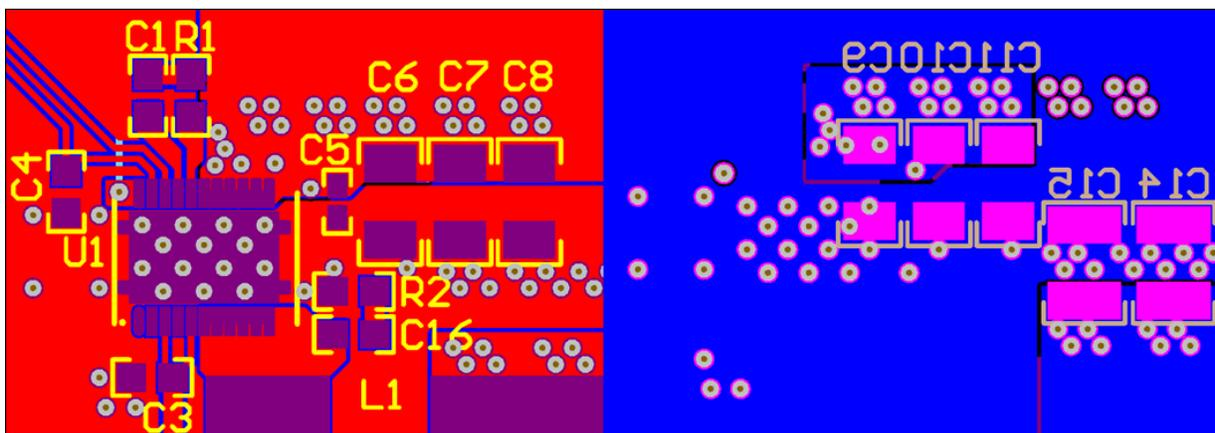

Figure 21. Recommended PCB Layout (Top-Down View)
- The placement of the input capacitors relative to V_{IN} and P_{GND} pins of CSD95373AQ5M device should have the highest priority during the component placement routine. It is critical to minimize these node lengths. As such, ceramic input capacitors need to be placed as close as possible to the V_{IN} and P_{GND} pins (see Figure 21). The example in Figure 21 uses 1 x 3.3 nF 0402 50 V and 6 x 10 μF 1206 25 V ceramic capacitors (TDK Part # C3216X7R1C106KT or equivalent). Notice there are ceramic capacitors on both sides of the board with an appropriate amount of vias interconnecting both layers. In terms of priority of placement next to the Power Stage C5, C8 and C6, C19 should follow in order.
- Use the smallest drill size allowed in your design. The example in Figure 21 uses vias with a 10 mil drill hole and a 26 mil capture pad.